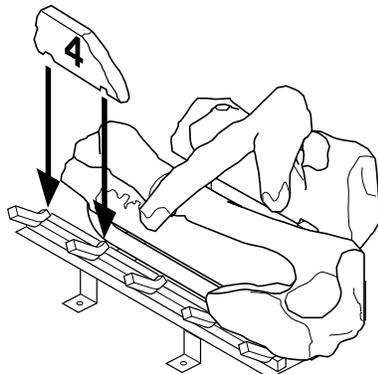

Figure 60 - Installing Log No. 4
4. Place log #4 (small log) onto the front left part of the grate making sure the notches fits over the prong of the grate. See Figure 60.